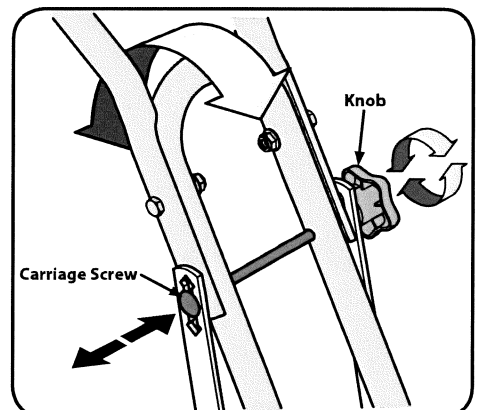

Figure 3-4
4. There are three height adjustment holes in the handlebar support bracket. Use a setting that will position the handlebars at approximately waist level when the tines are 3-4" into the soil. To adjust the height of the handlebars loosen the knob on the handle, pull out on the carriage screw, adjust to the desired setting, push the carriage screw in until the square portion of the screw locks into place and re-tighten the knob. See Figure 3-4.